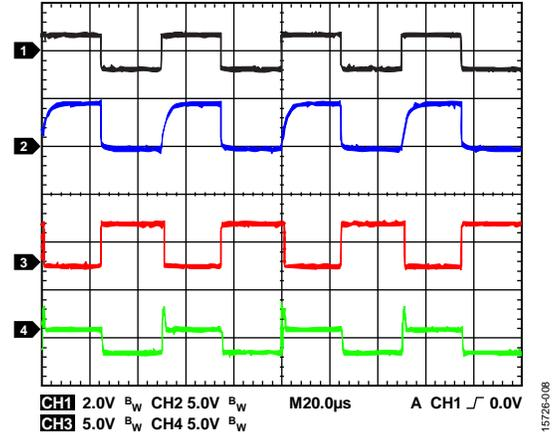
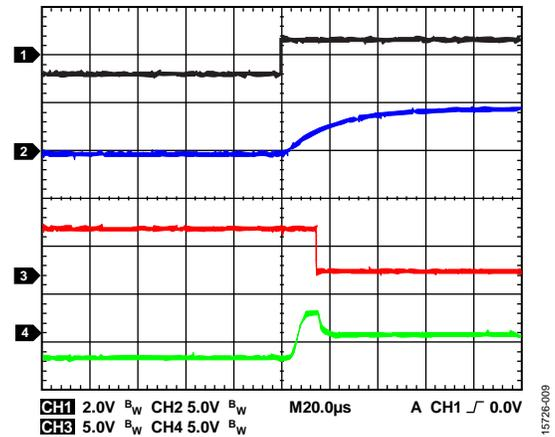
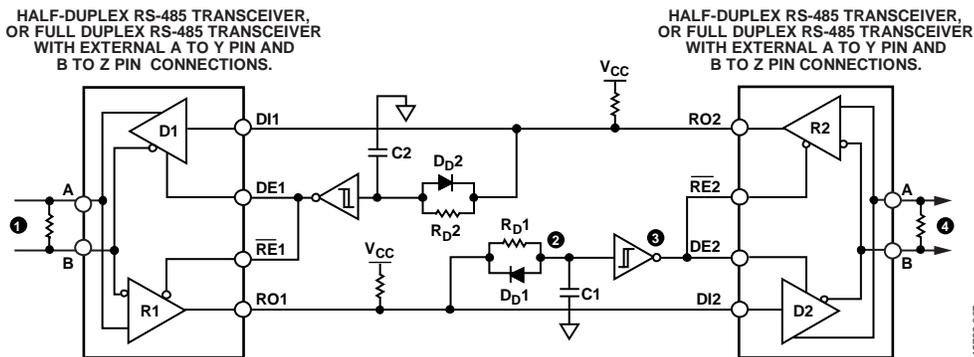

Figure 7. Isolated RS-485 Repeater Running at 40 kbps Data Rate
Figure 8. Isolated RS-485 Repeater Low to High Waveform
Figure 9. Half-Duplex Bit-Timing Direction Control with Delay Circuit
The maximum propagation delay of the ADM2587E driver is 700 ns while the delay of the receiver is around 90 ns, typically. This timing difference can cause an unwanted logic low on the receiver output (RO). To avoid an unwanted logic low, a low to high delay circuit implements before the Schmitt trigger, as shown in Figure 9.
The ADM2587E bus pins, A, B, Y, and Z, are connected together for half-duplex mode. For half-duplex operation, A connects to Y and B connects to Z. Figure 7 shows test results from the RS-485 repeater discussed throughout this application note. The data rate runs at 40 kbps, Channel 1 represents the differential input signal, and Channel 2 measures the differential output signal. The delay circuit causes the pulse at the rising edge of the output signal, then the differential voltage (VOD) returns to 0 V. For the fail-safe receiver on the bus, the receiver can interpret the pulse and 0 V VOD as logic high; otherwise biasing resistors are required.
Figure 8 shows the charging slope of the delay circuit, which determines when the Schmitt trigger changes its output from high to low. In an opposite transition status, a fast recover diode discharges C1 rapidly, resulting in no delay. This design is tested to support an up to 500 kbps data rate.
Figure 9 shows a half-duplex bit timing direction control with delay circuit. A full duplex, isolated RS-485 transceiver can also be used with the A pin connected to the Y pin, and the Z pin connected to the B pin, creating a half-duplex external bus connection. The ADM2587E is the recommended RS-485 transceiver.
Figure 9 shows the numbers, 1 through 4, that correspond to the similarly numbered waveforms shown in Figure 7 and Figure 8. For example, in Figure 8, Waveform 3 is the Schmitt trigger output, and Figure 9 shows the corresponding location in the circuit with the number 3 circled in black.